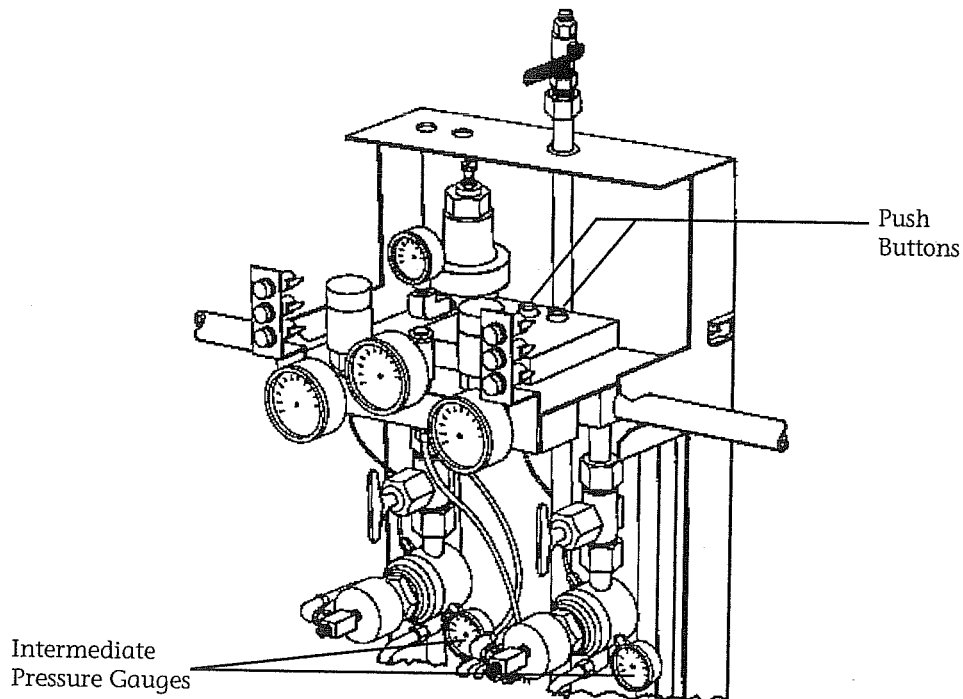

Figure 2-20
1. Press and release the push button on the side of the printed circuit board which has the green LED (in use) lit. The green LED should go out and the amber LED (ready) should light. The green LED on the opposite bank should light. (Figure 2-20)
3. The intermediate pressure gauge on the in use bank should be approximately 30 psi higher than the intermediate pressure gauge on the opposite bank. (Figure 2-20)